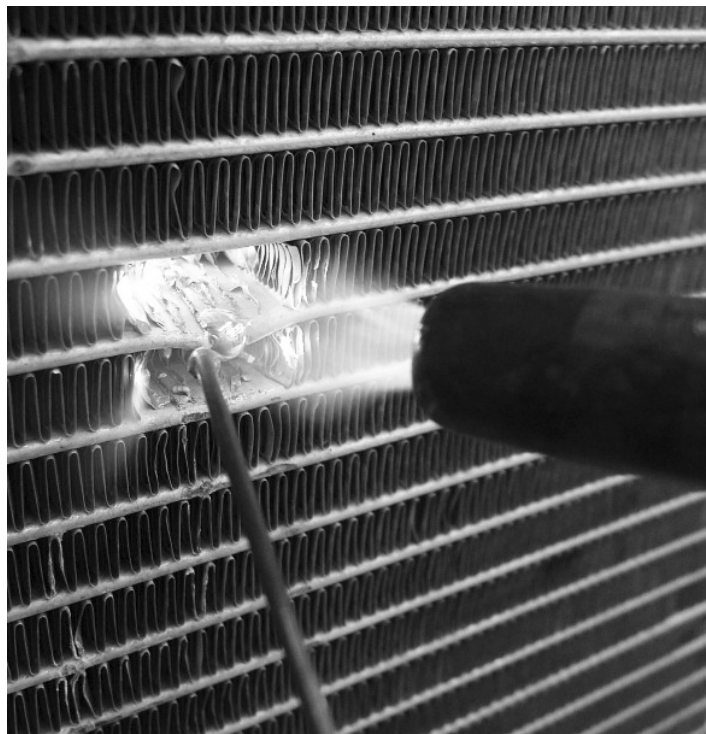

Figure 6. Brazing the Leak
3. Using MAPP gas torch and fluxed aluminum brazing rod, apply heat directly to the damaged spot on the coil and continuously test apply the brazing rod till the brazing rod melts evenly onto the damaged area. See Figure 6.